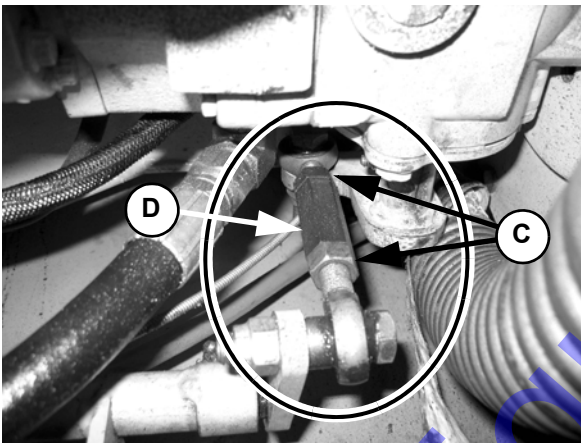

Fig. 42 - Neutral Linkage
3. Locate neutral linkage (Fig. 42) underneath the console, against the backwall, behind the hydraulic pump..